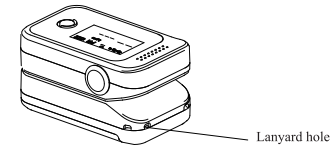

Figure 4
- 1.Thread the thinner end of the lanyard through the lanyard hole. The position of the lanyard hole is shown in **Figure 4**. (Notice: the lanyard hole is on both sides.)